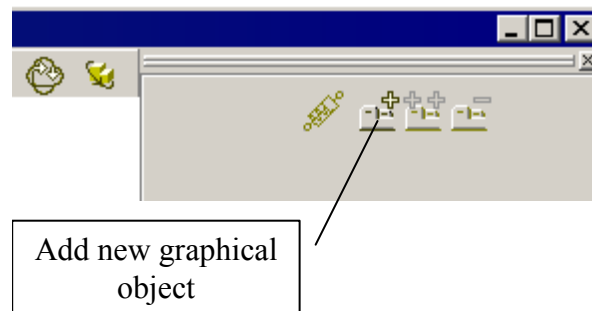

Figure 3. Adding a new element
2. Click  button in the top of the **Inspector** to create new graphical object, see Figure 3.